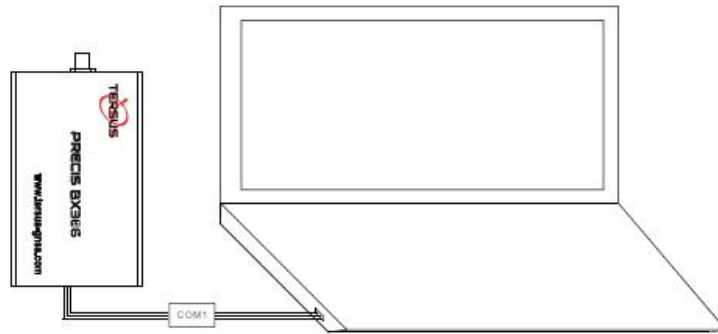
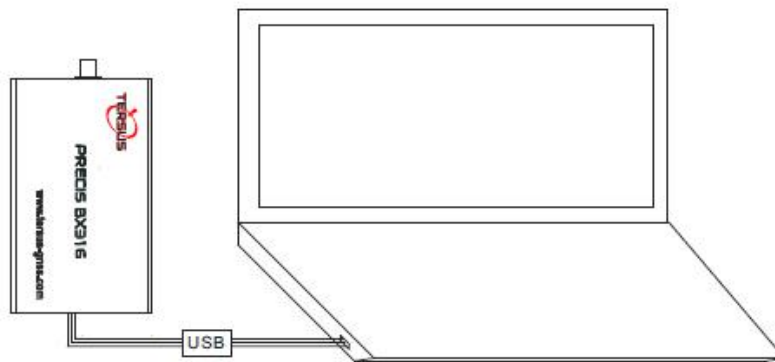

Figure 36 Download Files from eMMC Card with a Serial Port
Figure 37 Download Files from eMMC Card with an USB Port
1. Refer to Figure 36 and Figure 37 to create connection between a BX306/BX316 receiver and a computer.